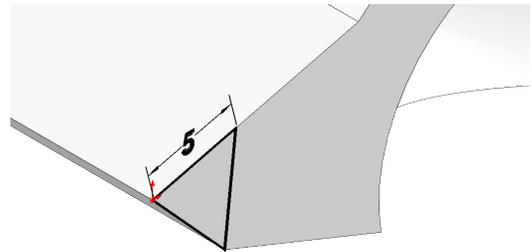

Fig. 64
Step 9. Click **Smart Dimension**  (S) on the Sketch toolbar.
Step 10. Dimension **trimmed line 5**, **Fig. 64**.